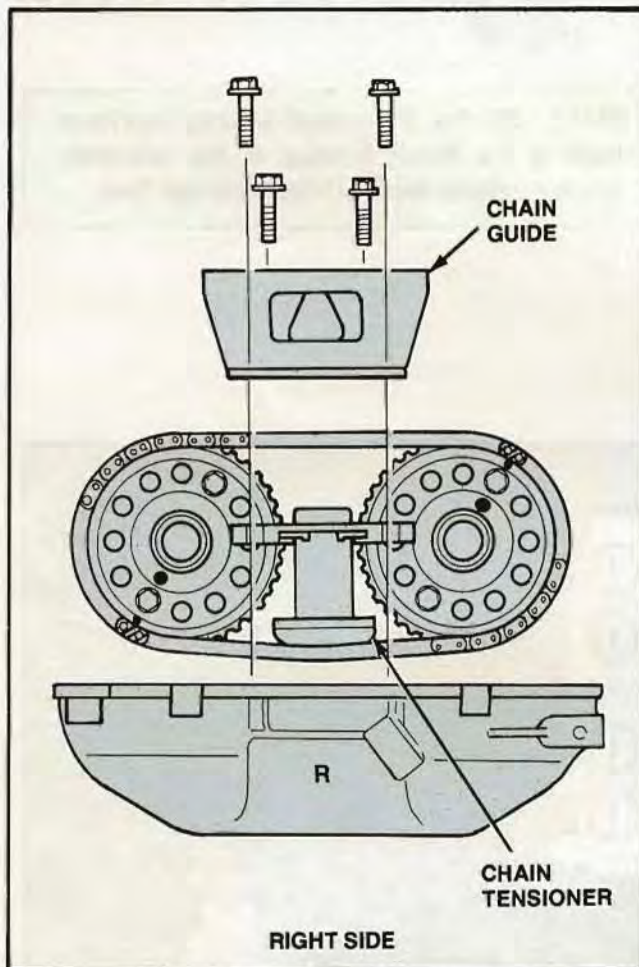

Figure 114. Right Side Chain Tensioner Installed
- Place the chain tensioner between the two sprockets (Fig. 114).